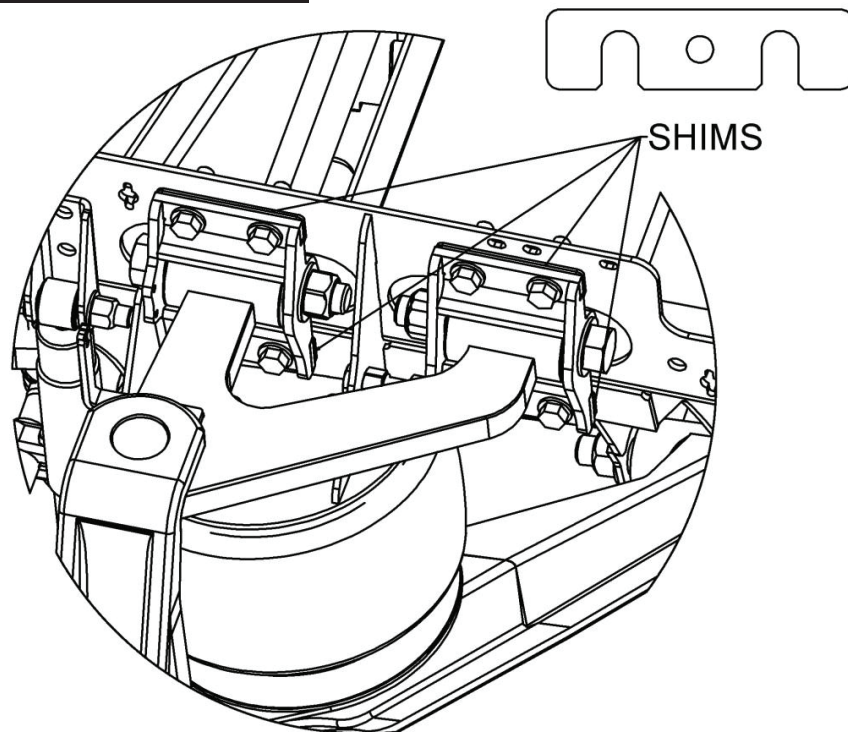

Figure 14 – Upper Control Arm Camber Adjustment
1. Loosen both upper control arm mounts. **DO NOT REMOVE BOLTS.** This will allow shims to be removed or added. (See Figure 14)